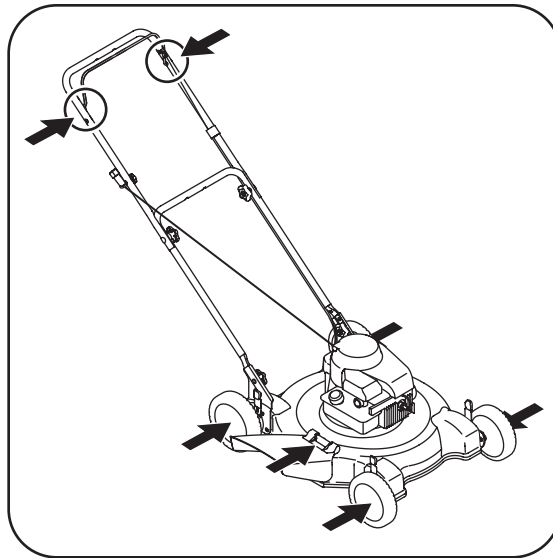

Figure 5-1: Lubrication areas on the mower.
- Lubricate pivot points on the blade control at least once a season with light oil. The blade control must operate freely in both directions. See Figure 5-1.
- Lubricate the wheels at least once a season with light oil (or motor oil). If wheels are removed for any reason, lubricate surface of the axle bolt and inner surface of the wheel with light oil. See Figure 5-1.
- Lubricate the torsion spring and pivot point on the chute deflector periodically with light oil to prevent rust. See Figure 5-1.